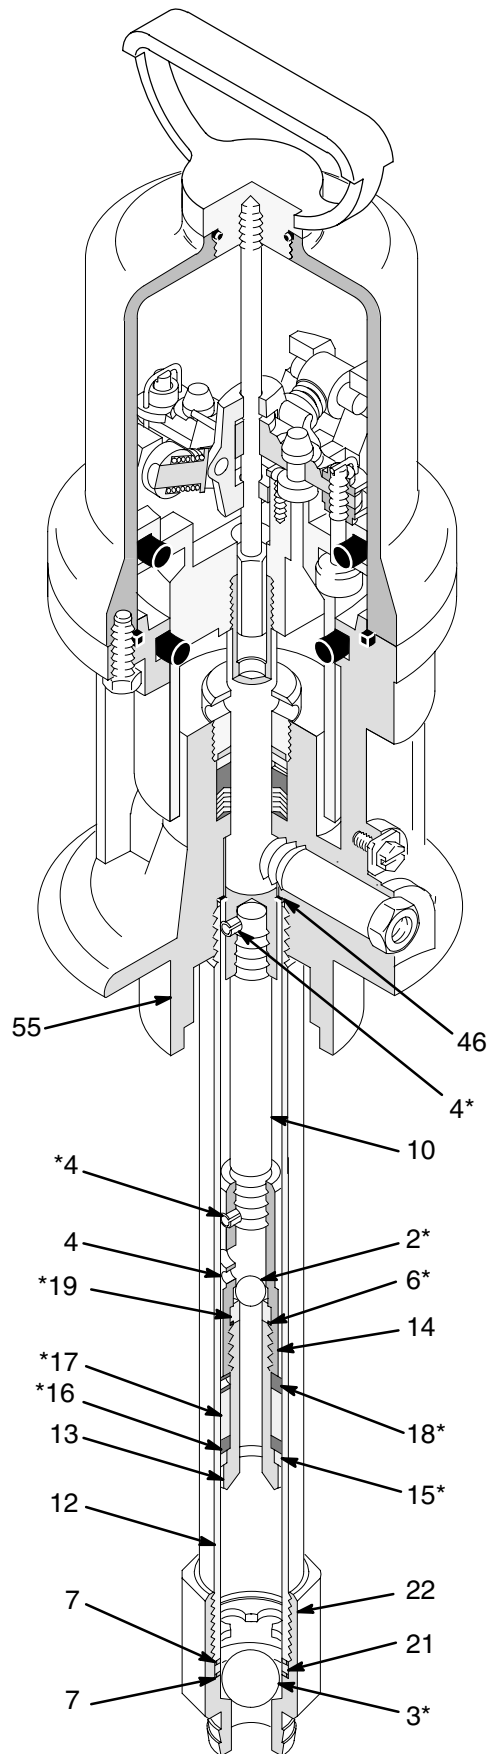

Fig. 18
3. Unscrew the intake valve body (22) from the riser tube (12). See Fig. 18. Disassemble the intake valve.
4. Clean and inspect the parts for wear or damage, and replace parts as needed. Unless further service is needed, reassemble and reinstall the intake valve, using liquid sealant on the male threads. See Fig. 18.
5. Use a strap wrench on the riser tube (12) to screw it out of the air motor base (55). Carefully inspect the smooth inner surface of the cylinder for scoring or irregular surfaces. Such damage causes premature packing wear and leaking, so replace the part if damaged.
6. Unscrew the piston body (13) from the piston coupling (14). Remove the ball (2\*), seat (19\*), gasket (6\*), bearing (18\*), packing (17\*), and seal (16). Do not remove the press-fit brass bearing (15\*). See Fig. 18.
- NOTE:** If the pressure-fit brass bearing (15\*) needs to be replaced, clamp it in a vise and drive the piston body (13) out with a plastic hammer. The new bearing **must** be started onto the piston body squarely.
7. Clean and inspect the parts and replace any that are worn or damaged. Be sure to check the copper gasket (46) in the motor base (55). Lubricate the parts with a light waterproof grease.
8. Install the seal (16\*), packing (17\*), bearing (18\*), gasket (6\*), seat (19\*) and ball (2\*) on the piston body (13). The check ball seat (19\*) may be reversed, if needed, to provide a new seat. Screw the piston body (13) into the piston coupling (14).
9. Screw the riser tube (12) into the air motor base (55).
10. Reinstall the ball (3\*), gasket (7), ball stop (21) and other gasket (7) in the intake valve housing (22). Screw the housing onto the riser tube (12).